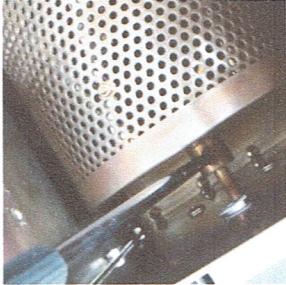

Figure 1
- a. Turn the main body upside down and loosen the fixing screw on the flange connected to the drive shaft as shown in Figure 1 to unlock the drum.